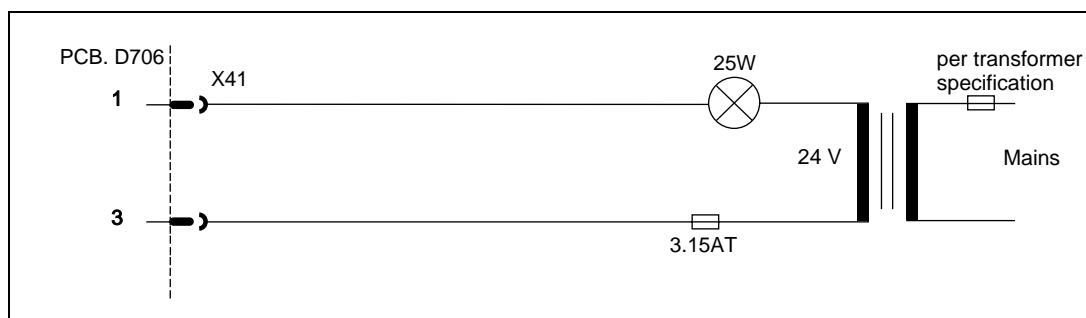

Figure 17.
- Connect cable to the lamp holder in series with the power supply according to Figure 17.